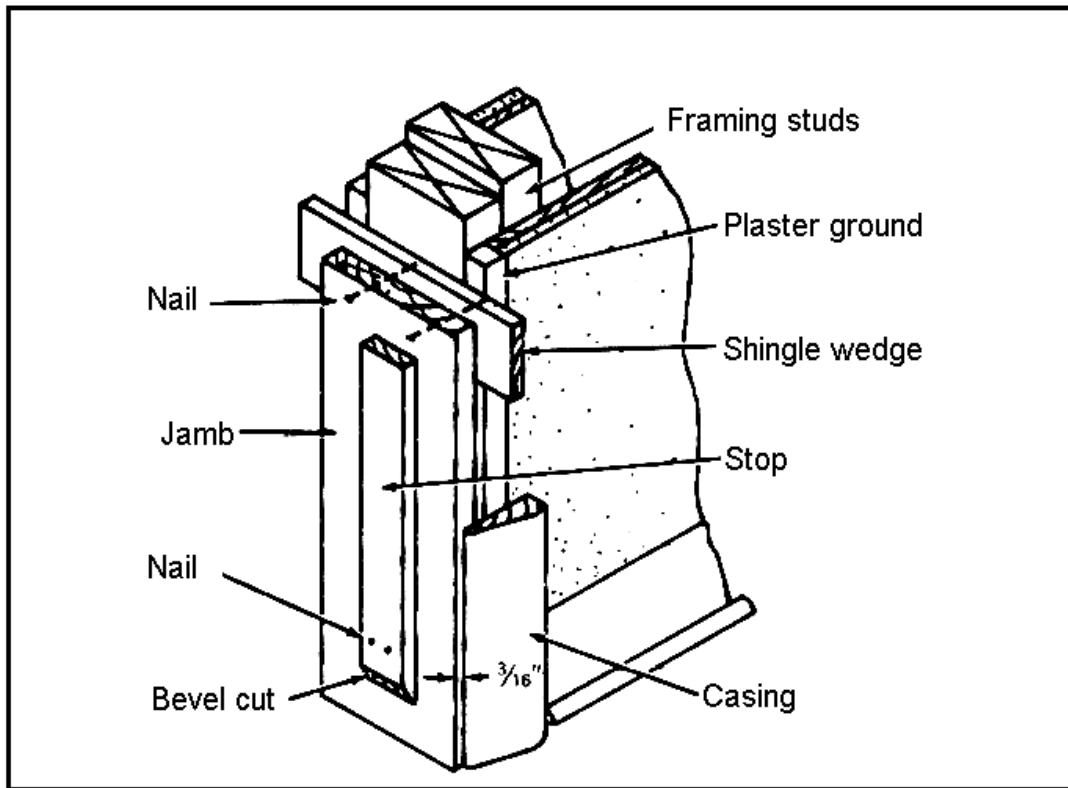

Figure 051-236-2109-4
- a. Place temporary door stops until the door is hung (Figure 051-236-2109-4).